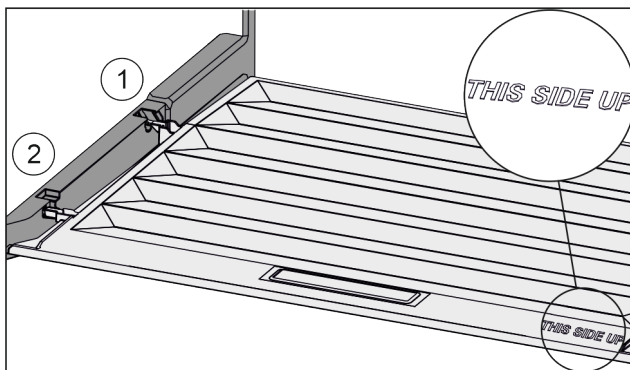

Fig. 104
- ▶ Insert the lip of the cover over the opening of the rear bracket Fig. 104 (1) and click into place Fig. 104 (2).